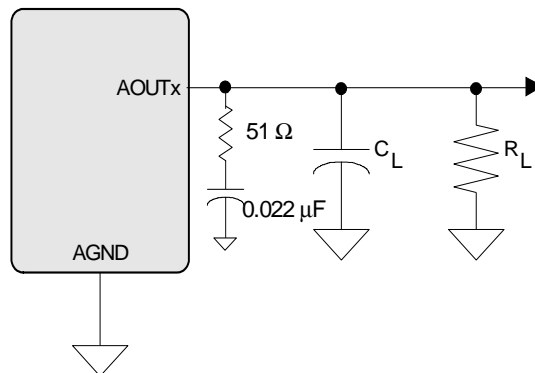

Figure 2. Headphone Output Test Load
5. See Figure 2. R_L and C_L reflect the recommended minimum resistance and maximum capacitance required for the internal op-amp's stability and signal integrity. In this circuit topology, C_L will effectively move the band-limiting pole of the amp in the output stage. Increasing this value beyond the recommended 150 pF can cause the internal op-amp to become unstable.
Test conditions (unless otherwise specified): Input test signal is a full-scale 997 Hz sine wave; Sample Frequency = 48 kHz; Measurement Bandwidth is 20 Hz to 20 kHz; Test load $R_L = 16 \Omega$, $C_L = 10$ pF (see Figure 2); "Required Initialization Settings" on page 33 written on power up.
Test conditions (unless otherwise specified): Input test signal is a full-scale 997 Hz sine wave; measurement bandwidth is 20 Hz to 20 kHz; Sample Frequency = 48 kHz; Test load $R_L = 10\text{ k}\Omega$, $C_L = 10\text{ pF}$ (see Figure 2); “Required Initialization Settings” on page 33 written on power up.